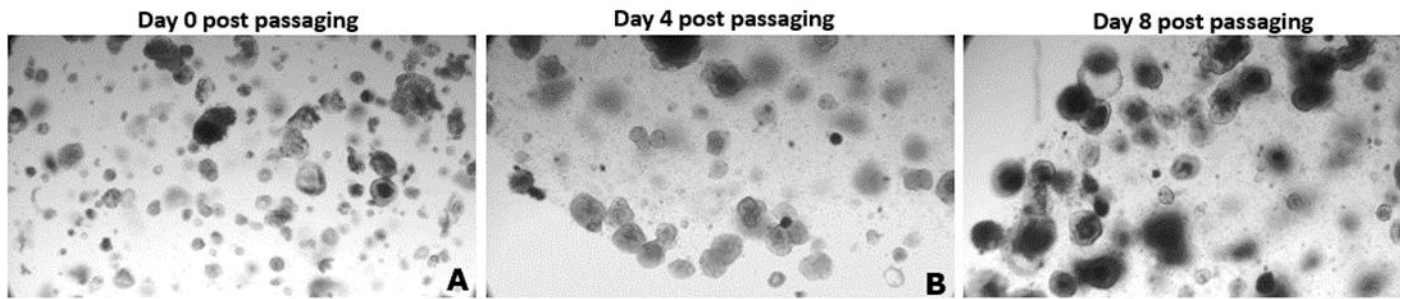

Figure 5: Morphology of LPOs passed using the fragmentation method at (A) Day 0, (B) Day 4 and (C) Day 8
13. Observe the domes under a microscope and capture images on Days 0, 2, 4, 6 and the day of passaging for documentation. Figure 5 shows the morphology of LPOs passaged using the fragmentation method.